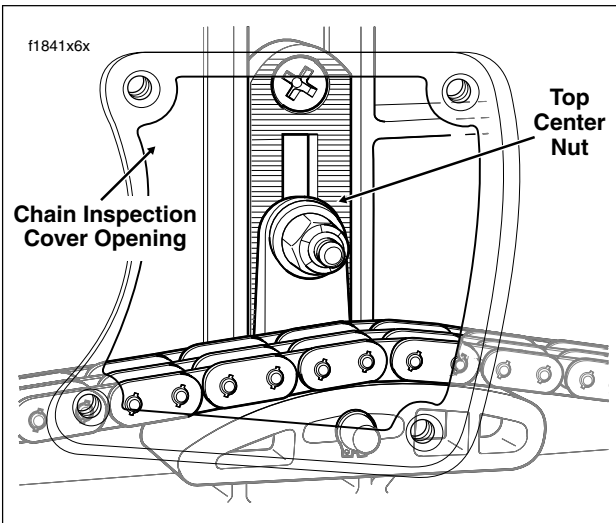

Figure 1-4. Primary Chaincase Cover
- a. Locate the chain tensioner assembly and loosen the top center nut a maximum of two turns. See Figure 1-4.